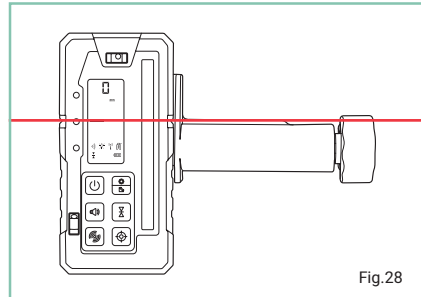

Fig.28
- When the level position has been located, the speaker will emit a constant beep and show the centre alignment line on the LCD screen (Fig.28).